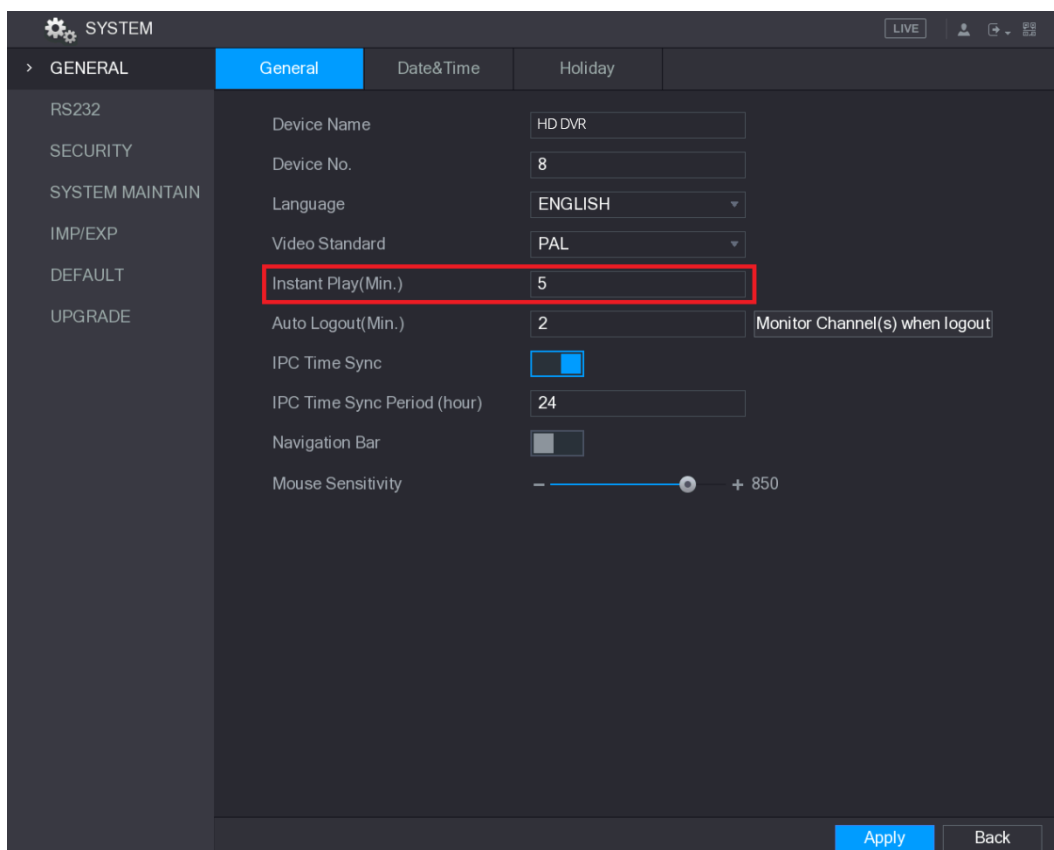

Figure 5-41
- To change the playback time, select **Main Menu > SYSTEM > GENERAL**, in the **Instant Play** box, enter the time you want to play back. See Figure 5-41.